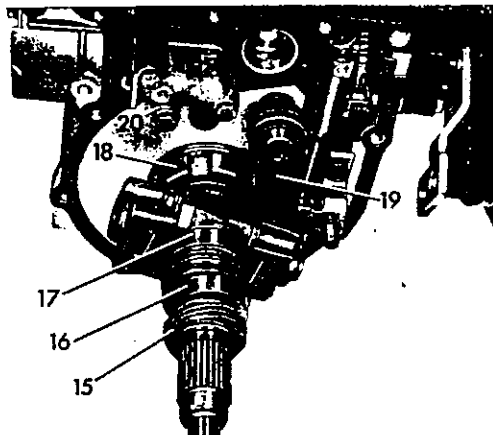

Fig. 38
17 Install parking lock gear (18) on output shaft. Insert parking pawl (19) with retracting spring **Fig. 38**